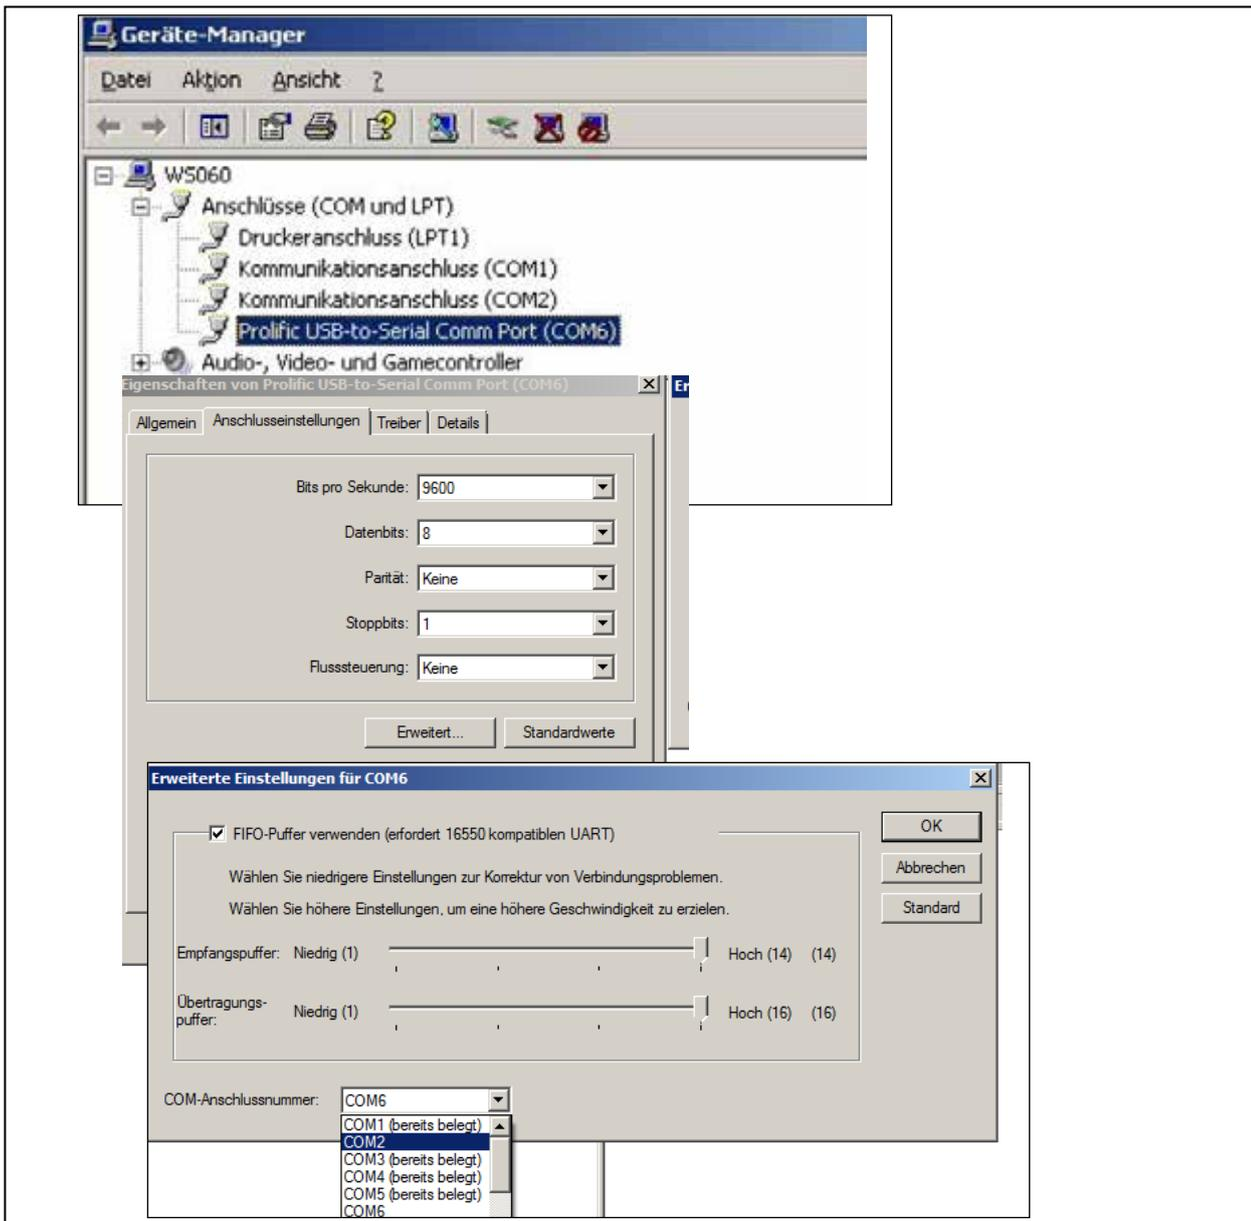

Fig. 9.2: Connection settings in the Device Manager
1. Please open the Device Manager (System Control >> Device Manager) and double-click on the directory “connections”. The connection numbers can be found in section “Prolific USB-to-Serial Comm Port” (in Fig. 9.2 “COM6”).